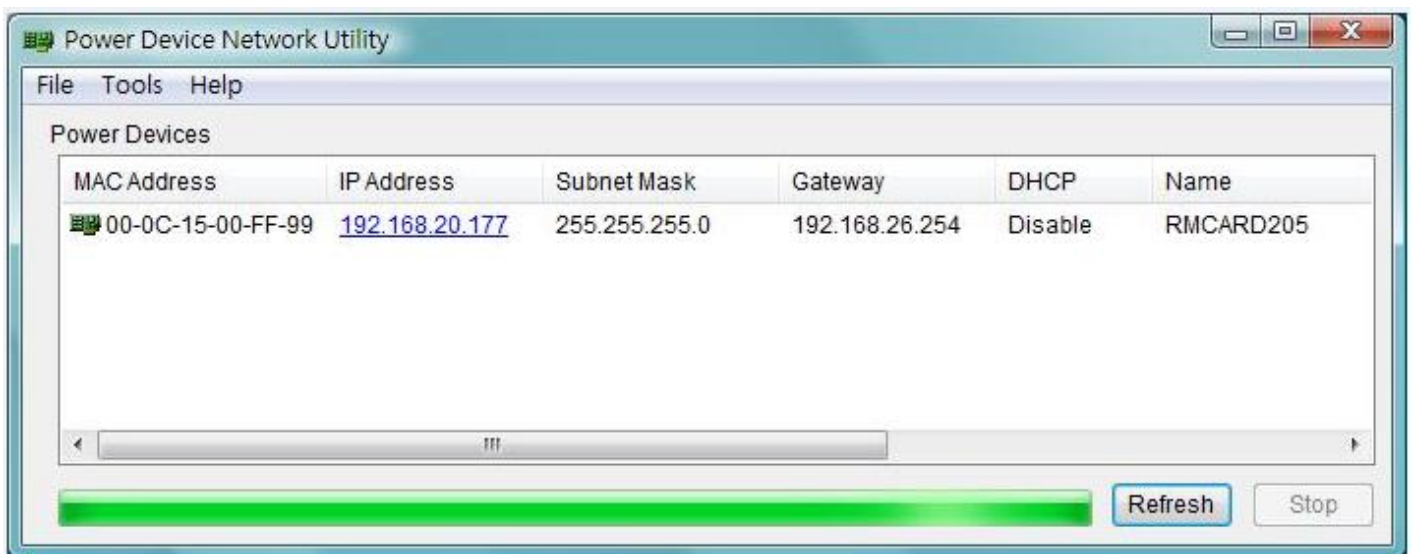

Figure 1. The main window of the "Power Device Network Utility" program.
3. The main dialog of the Power Device Network Utility Tool program is shown in Figure 1. The configuration tool will display all CyberPower Remote Management devices present on the same network subnet. The "Refresh" button is used to search the local network subnet again.